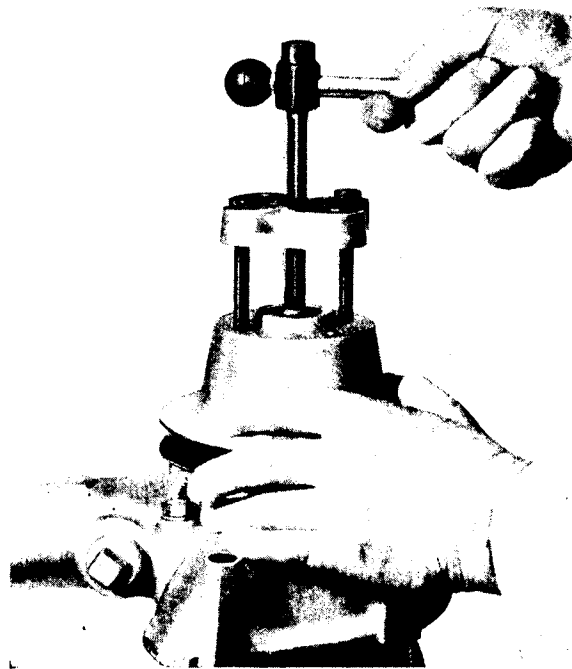

Fig. L.4.
2. Using a suitable withdrawal tool, remove pulley from shaft (see Fig. L.4) and remove pulley driving key.